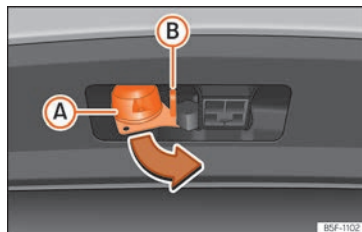

Fig. 259 Turning the 13-pin connector
- Grip the connector in area (A) and remove it in the direction of the arrow » Fig. 259.
- Open the cover of connector (A) and connect the trailer » Fig. 259.
- Hook the trailer's pair cable to the safety lug » Fig. 259 (B). When hooked up, the pair cable should have some **slack** in all vehicle towing positions (sharp curves, reverse, etc.).